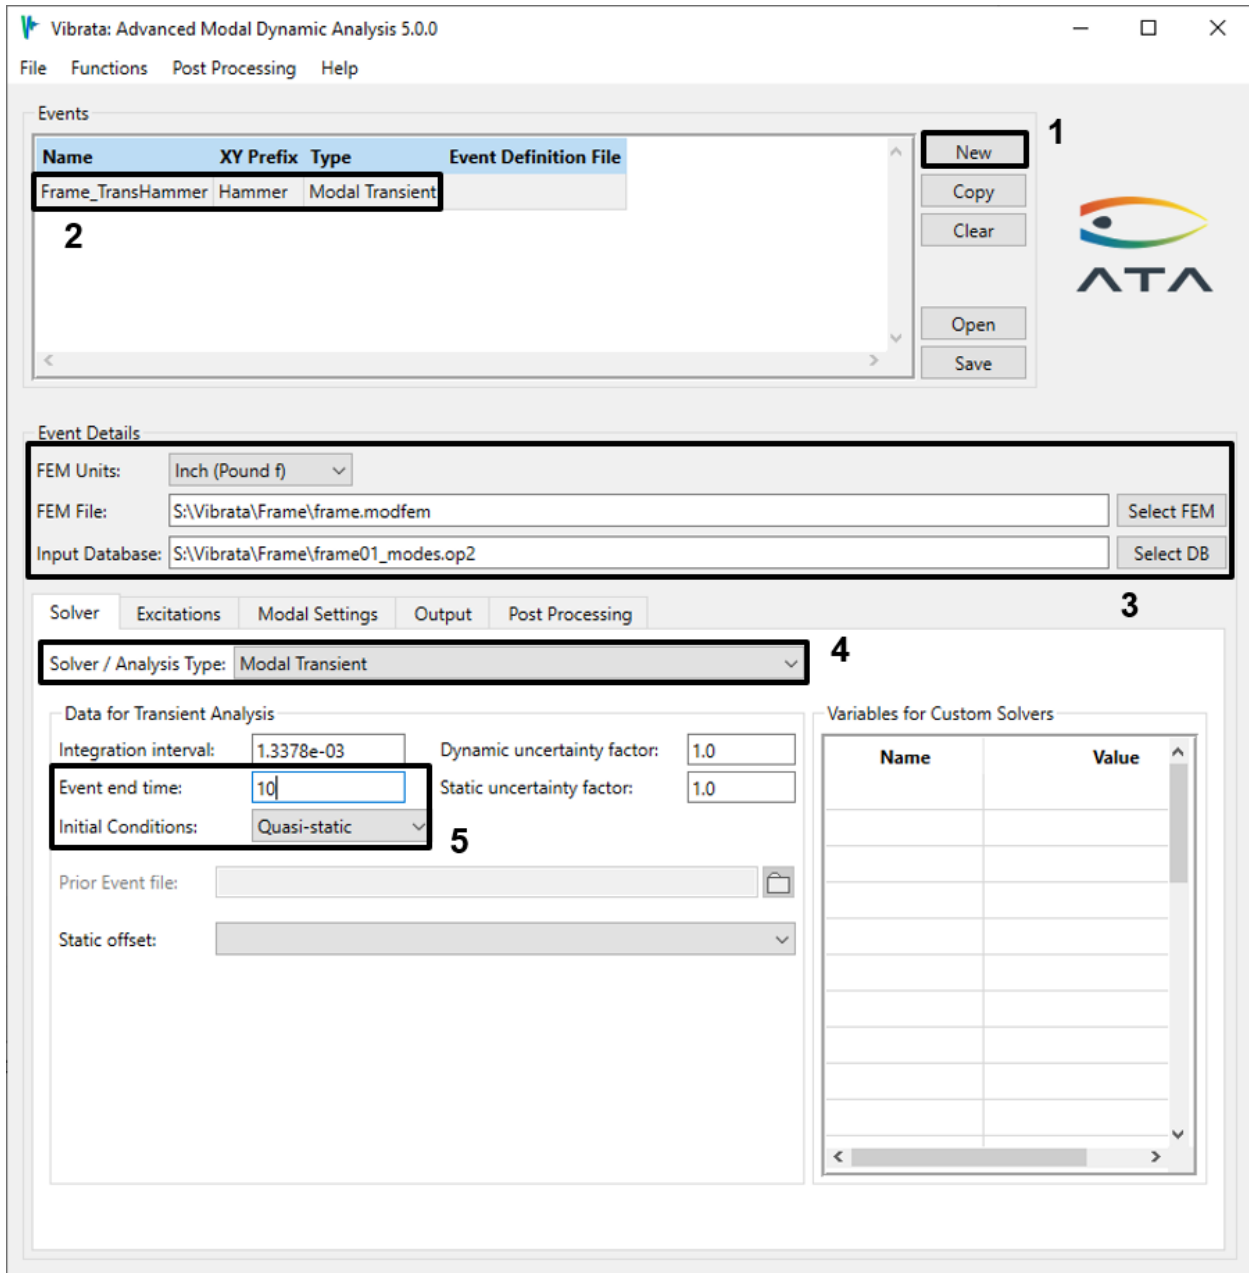

Figure 4-111. Solver setup for frame model transient analysis.
2. In the Event Manager, set up a new transient event and select the frame's modfem file and the OP2 file "frame01\_modes.op2". Set the event end time to 10 seconds and its initial conditions to Zero, as shown in Figure 4-111. As always, be sure to assign a recognizable event name.